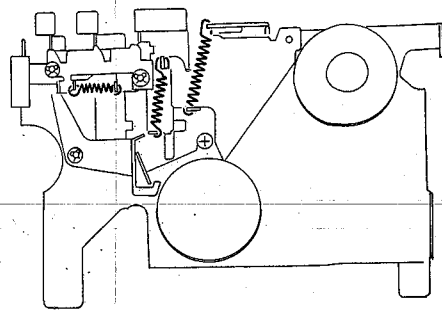

Fig. 7
- 1) After repaired, make certain that the springs are anchored as illustrated. (See Figure 7)